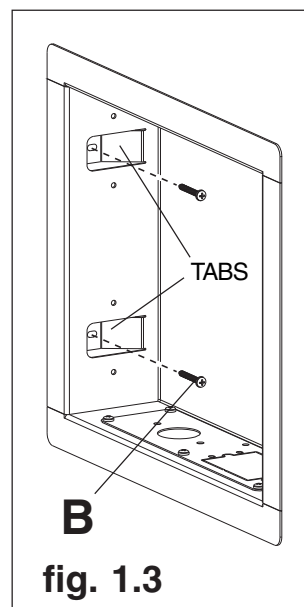

fig. 1.3
Level in-wall box, and drill two mounting holes 1/8" (3 mm) dia. holes 1-1/2" (38 mm) deep using mounting holes on tabs of in-wall box. Make sure in-wall box is level, secure it using two #10 x 1-1/2" wood screws (B) as shown in figure 1.3.